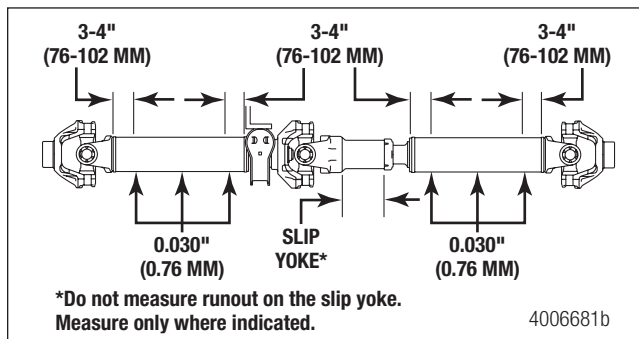

Figure 13.5
3. Use a dial indicator to measure that the driveshaft is straight within 0.030-inch (0.76 mm) on the tube 3-4-inches (76-102 mm) from the front and rear welds, and 0.030-inch (0.76 mm) at the center of the tube. Figure 13.5.